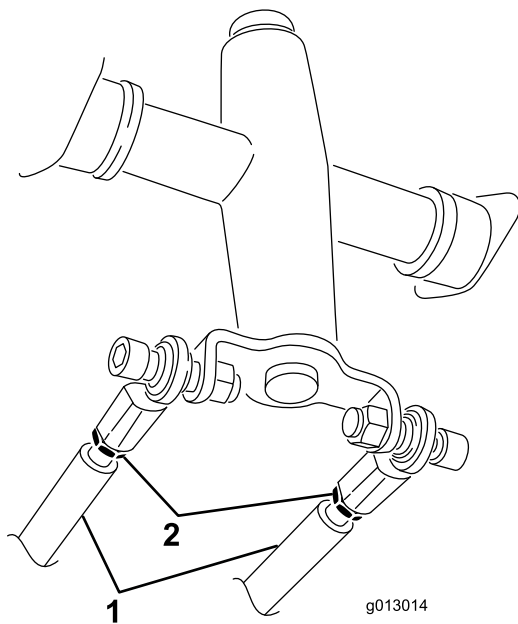

Figure 54
3. Loosen the jam nuts on the traction rods, under the control panel (Figure 54).